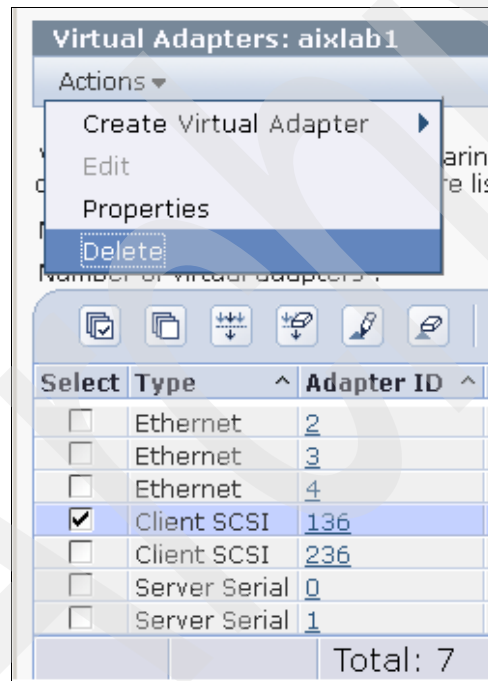

Figure A-3 Dynamic LPAR operation to delete an adapter
5. Highlight the adapter. Click **Actions** → **Delete** → **Confirm when prompted**, as shown in Figure A-3.